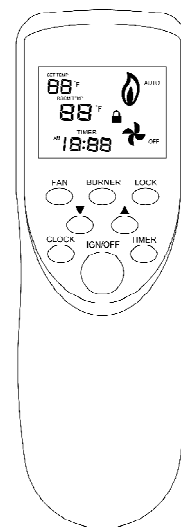

Fig 12 Front of the Transmitter
1. Press the IGN/OFF button. (See figure 12)